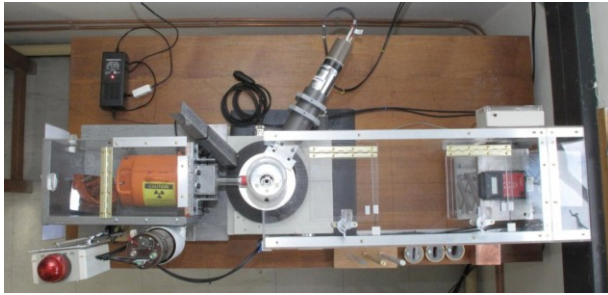
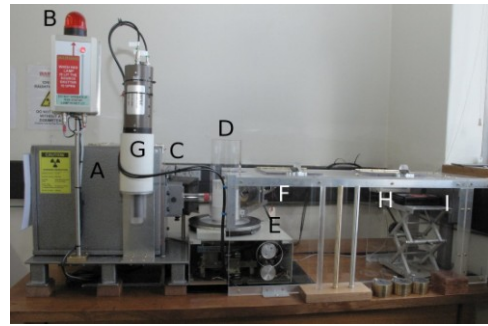

Figure 1a Top view of the apparatus
Figure 1b Side-view of the apparatus.
- **Use shielding:** The source is within a shielded container, Figure 1a, (orange container to left of image). However, a small amount of radiation escapes from the container. Additional lead shielding surrounds the container (Figure 1b, labelled A); you should have this shielding between you and the source as much as possible (if you cannot see the orange container, then the radiation source cannot “see” you).
- There is a warning lamp (Figure 1b, labelled B) for which lamp ON means beam ON lamp OFF means beam OFF – there is also an indicator light that should be on if the lamp is working.